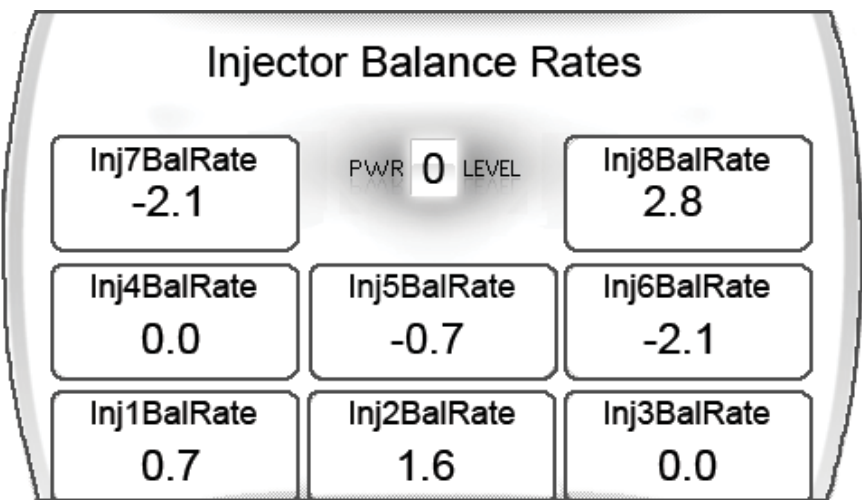

Figure 12
2. **Select Yes.** Figure 12 will appear. Each box represents an Injector. This screen is where you'll want to compare the injector balance rates in both Park and Drive.
NOTE: *Figure 12 injector balance screen shot represents a truck with injector balance rates that are acceptable. The sample was taken in park. You can see that there are no numbers higher than +4.0 or -4.0 on the screen, so it's safe to assume the injectors are working properly.*